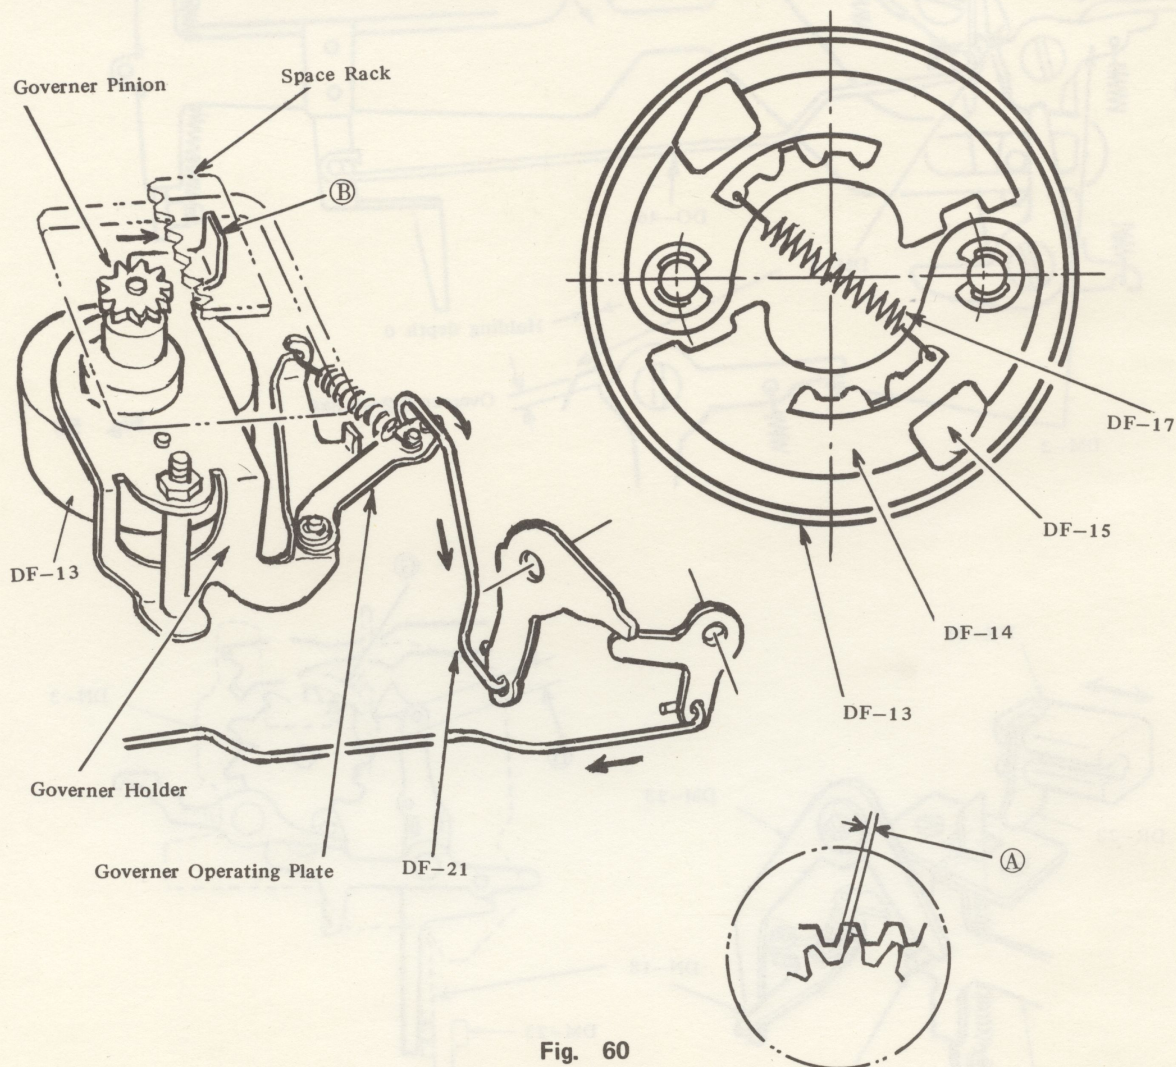

Fig. 60
When Tab Mechanism is operated by Tab Key operation, Governor Pinion simultaneously engages with Space Rack by DF-21 (Governor Wire) through the media of Governor Operating Plate and Governor Holder, DF-14 (Friction Weight) will be opened by centrifugal force under revolution, and DF-15 (Rubbing Colk) will rub against Governor Drum as a brake action. (Fig. 60)
- (2) Adjust brake action by changing attaching position of DF-17 (Spring) installed between two (2) each of DF-14. (Fig. 60)